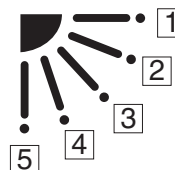

Fig. 1-142
* Setting data "YYYY" (refer to Fig. 1-142)
When the flap position is set to 4 or 5 and the unit is in the cooling or dry mode, the flap position is moved to 3 and the operation is started. (refer to Fig. 1-142)
At this time, the unselected flaps are moved to the position 1. (refer to Fig. 1-142)